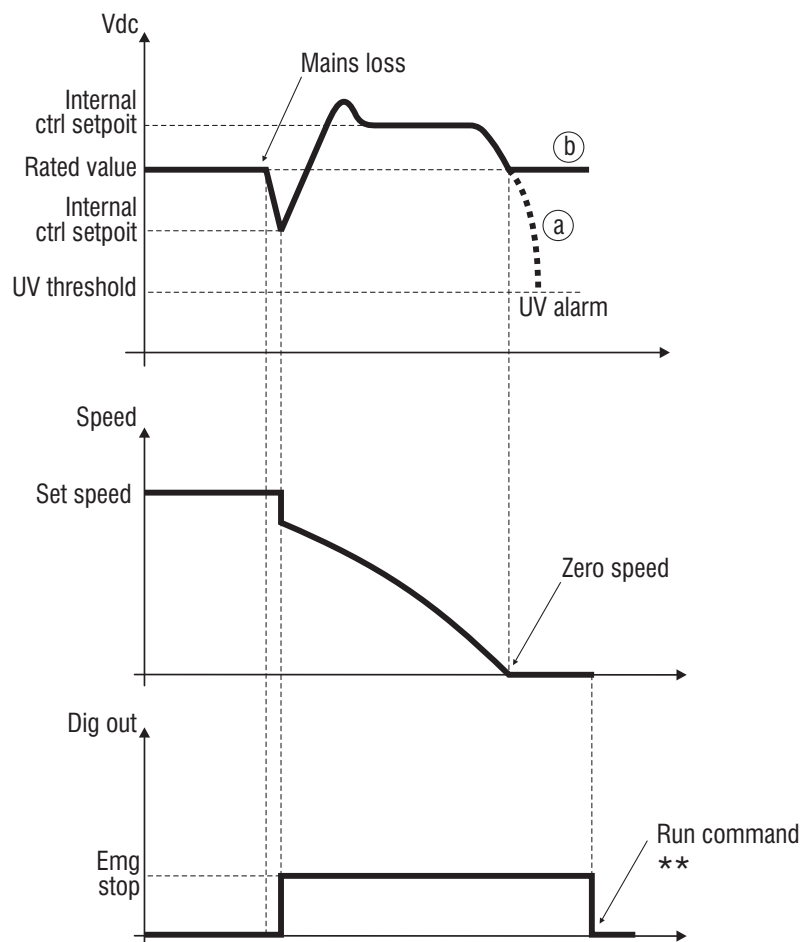

Figure 7.6.12: Emergency Stop
P.343 = 2 Emg Stop	See figure 7.6.12